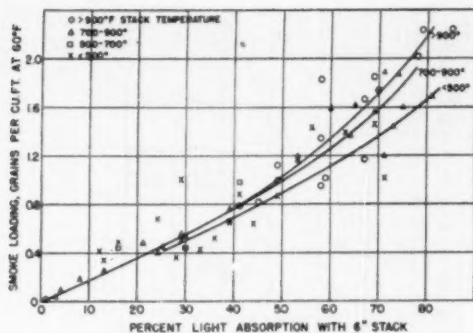
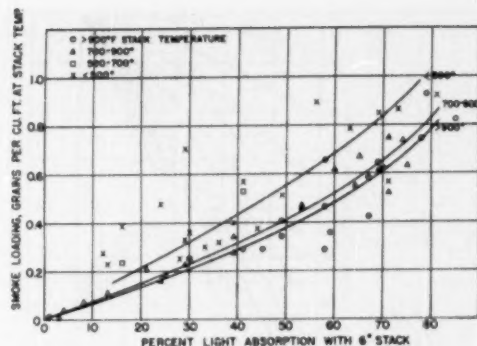
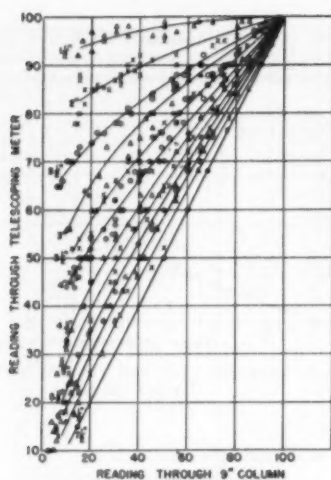
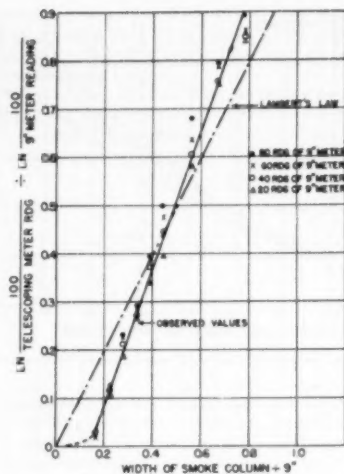

FIG. 6 GRAINS PER CUBIC FOOT AT 60°F VERSUS LIGHT ABSORPTION
FIG. 7 GRAINS PER CUBIC FOOT AT STACK TEMPERATURE VERSUS LIGHT ABSORPTION
FIG. 9 READING THROUGH TELESCOPING METER AND THROUGH 9-IN. COLUMN
FIG. 10 RELATION BETWEEN TWO METER READINGS AND THICKNESS OF COLUMN
**Correlation of Photocell Readings and Filtration Results.** The smoke loading in grains per cubic foot at 60°F was plotted against the per cent light absorption in Fig. 6. The points are represented by a symbol depending upon the average stack-gas temperature during the test. There appears to be a slightly different curve for each temperature range with the higher temperatures showing a smaller percentage of light absorption for the same smoke loading. Part of this temperature effect can be expected, for, if the ratio of weight of smoke particles to weight of gas remains constant, a higher temperature will cause an expansion of the gas and will result in a lower concentration of particles. However, when the smoke loading in grains per cubic foot of gas at the actual stack temperature was plotted against the per cent light absorption, as shown in Fig. 7, the curves representing the temperature ranges above 500°F were fairly close to one another, but the curve for the points representing lower than 500°F temperatures deviated from the other curves more than the corresponding curves in Fig. 6. The fact that the curve in Fig. 7, labeled 500°F, did not coincide with that for the higher temperature indicated that factors other than the expansion and contraction of the gas may be present. There is a possibility that the texture and composition of the smoke particles are dependent also upon the temperature.
The data shown in Figs. 6 and 7 can be analyzed by means of Lambert's law which is the theoretical expression for light absorption when a beam is passed through a suspension of solids of uniform size, density, and opacity.
the opacity of the stream.5 In the tests reported in this paper, when the readings in microamperes of the telescoping meter were plotted against the simultaneous reading of the 9-in. column meter, as shown in Fig. 9, a family of curves represents the results. A reading of 100 microamperes represents a clear stack. As the width of the column, measured by the telescoping meter became thicker, the curves approached a straight line showing equal readings of the 7 1/2-in.-column telescoping meter and the 9-in.-column meter. No deviation from this straight line is expected when the telescoping-meter column is increased from 7 1/2 in. to 9 in., indicating a certain lack of critical definition when the columns are of approximately the same thickness. As the smoke column decreases in thickness, the curves become progressively more horizontal in the light-smoke regions and theoretically drop to the origin of the dense-smoke region.
With the total air supply and stack temperature known, Figs. 6 and 9 may be used to calculate the total weight of solids discharged from a stack. If the weight discharge is to be determined from a 4-in. stack when the meter reading is 80 microamperes, for example, a vertical line between the 4-in. and the 6-in. curves in Fig. 9 shows that a 6-in. column of the same-density smoke would give a reading of 70 microamperes. Referring to Fig. 6, if the temperature is in the 700-900 F range, 100 minus 70 microamperes or 30 per cent light absorption indicates a smoke loading of 0.55 grains per cu ft. By multiplying the loading by the flow of flue gas in cubic feet per minute corrected to 60 F, the weight discharge of solids is found. Data were taken only for columns less than 9 in. diam; however, the method would apply equally well to large-size stacks.
If this expression is borne out by the experimental data, the left-hand side of the equation plotted against the right-hand side should show a straight line of slope 1.0. The readings for the telescoping meter were obtained from the curves in Fig. 9, at 9-in. meter readings of 80, 60, 40, and 20, respectively. The plotted points in Fig. 10 give a straight-line relationship, but the slope is greater than 1.0. If the straight line were extrapolated, it would indicate that the telescoping meter would read 100 while light was still shining through a 1-in. thickness of smoke. Extrapolation of the other end of the line would show that the two meters would give the same reading even though the light for the telescoping meter was shining through only 8 in. of smoke. No convincing explanation could be found for this deviation from the theoretical.